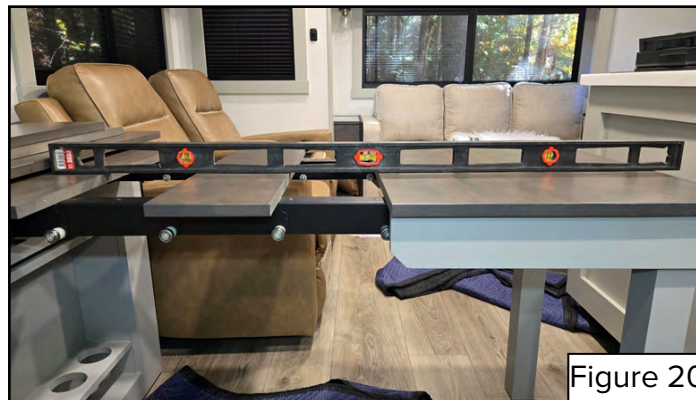

Figure 20
18. Using a screw gun and a #2 square drive bit, remove two of the table panels (Figure 18A, B) by unscrewing the panels from the Dinesk™ brackets underneath (Figure 19A, B). The table should now lay flat (Figure 20). Save these screws for re-installation of the panels.